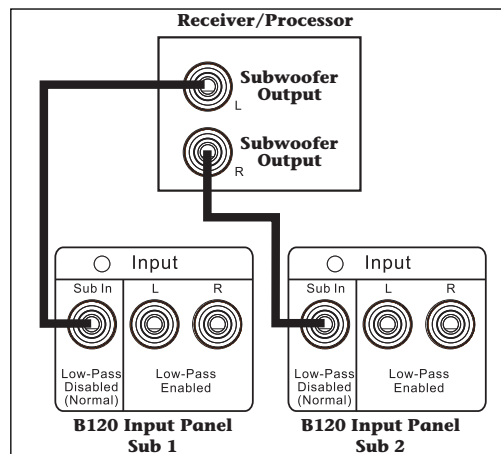

Figure 13: Multiple subwoofer connections
2. Connect the supplied RCA patch cable from one of the Subwoofer or LFE outputs on the processor/receiver to the Sub In connector on the first B120 rear panel, as shown in Figure 13.